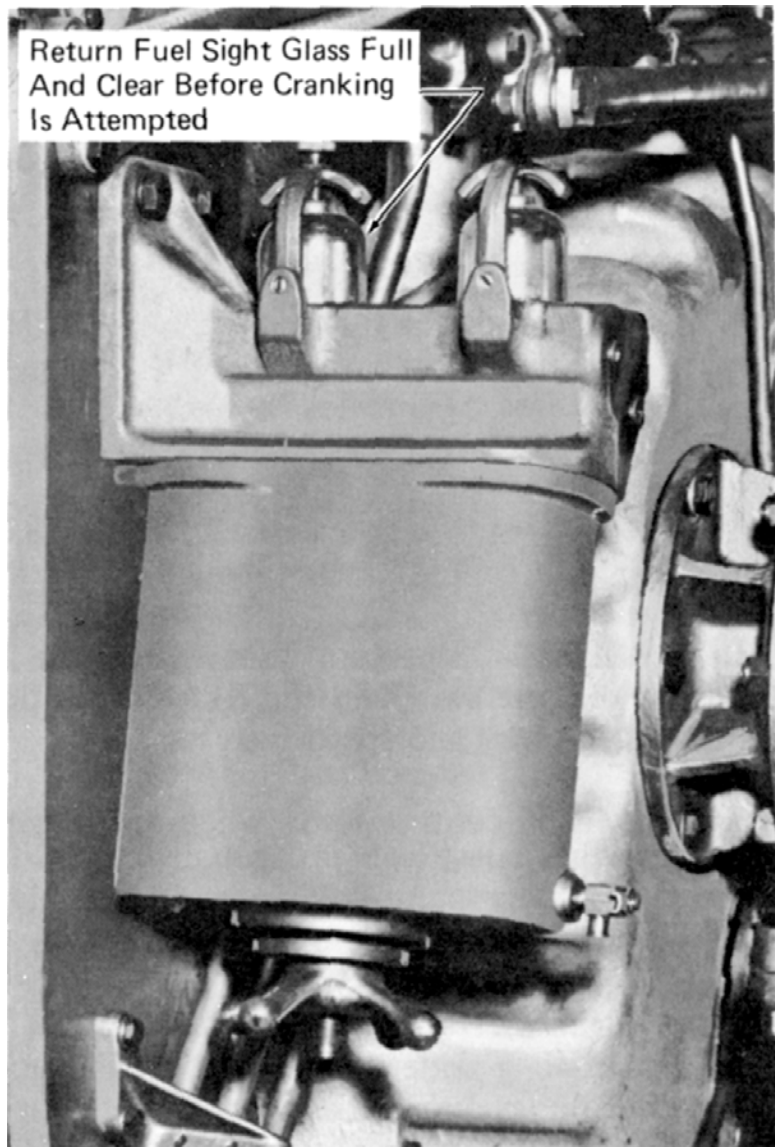

Fig. 3-3 - Fuel Oil Sight Glasses
9. At the equipment rack in the engine room, place the Fuel Prime/Engine Start switch in the PRIME position until fuel flows in the return fuel sight glass clear and free of bubbles (normally 10 to 15 seconds). See Fig. 3-3.